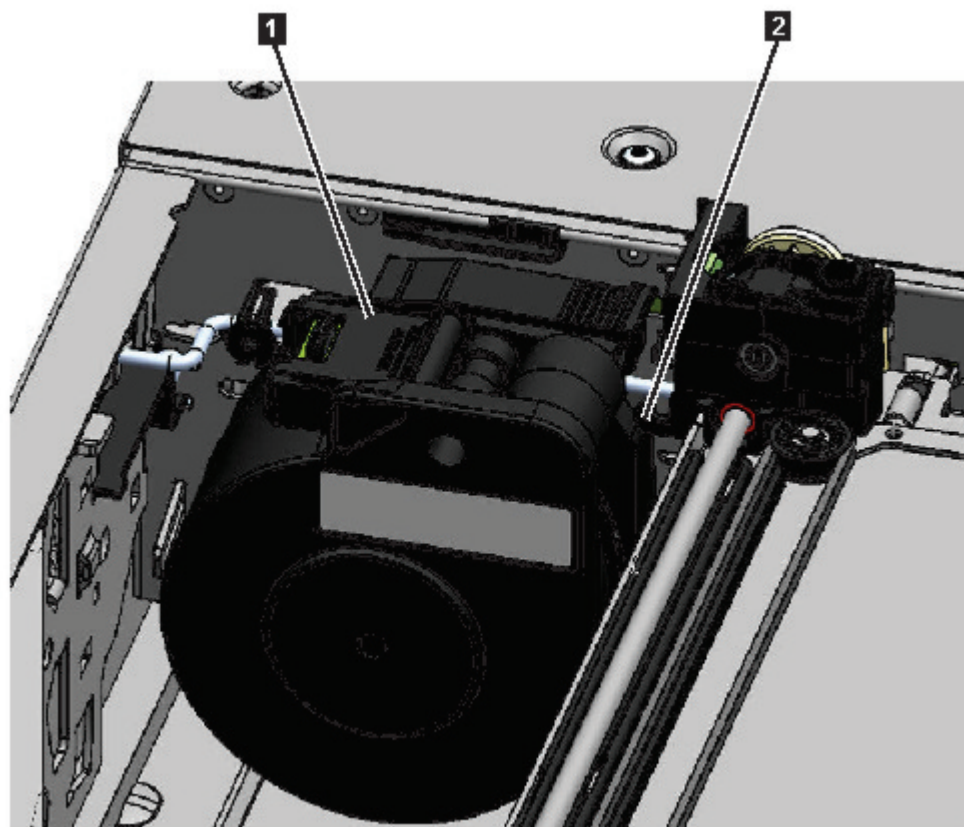

Figure 75. Spooling cable in park position
**Note:** Note where the end of the spooling cable pivots in the accessor. It is important to know when you attach the new spooling cable to the accessor. See 2 in Figure 75 on page 138.
9. Place the spooling connector (1 in Figure 75 on page 138) to the park position.